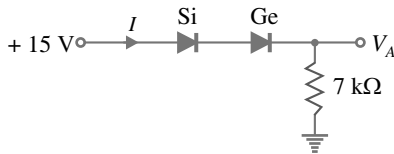

Fig. 4.85
5. Find the voltage  $V_A$  and current  $I$  in the circuit shown in Fig. 4.85. Use simplified model. [14 V; 2 mA]